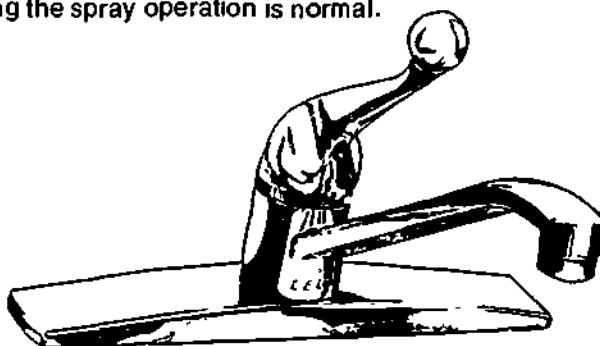

Figure 23-9. Delta Ball Faucet
15. Another popular faucet is the Delta ball faucet shown in Figure 23-9. It is a single-lever type for kitchen sinks, lavatories, and bathtubs.